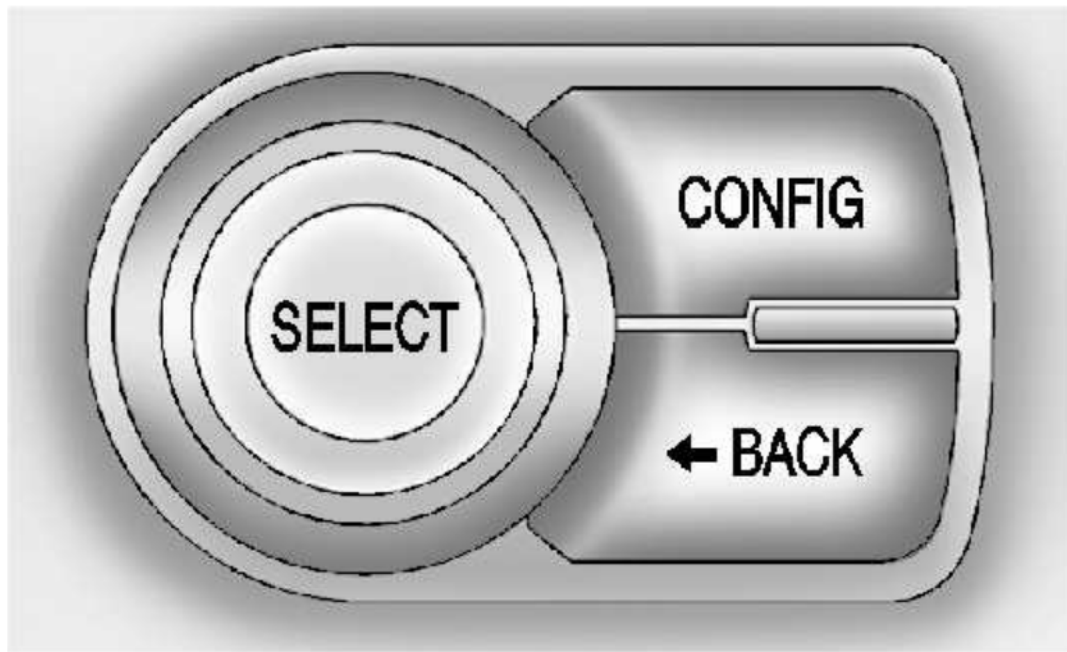

Fig. 9: Identifying DIC Controls (Spark EV)
4. If the Driver Information Center (DIC) display is minimized, press the SELECT knob to maximize it. See Fig. 9.